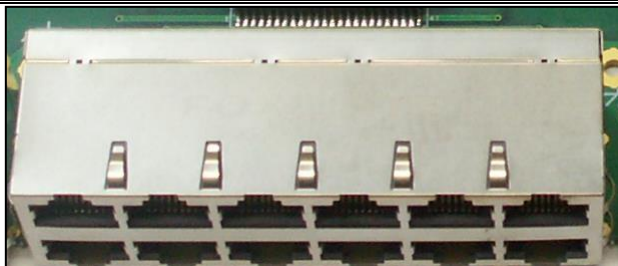

Figure 8: RJ45 Connectors
1. RJ45 Connectors (see Figure 8)